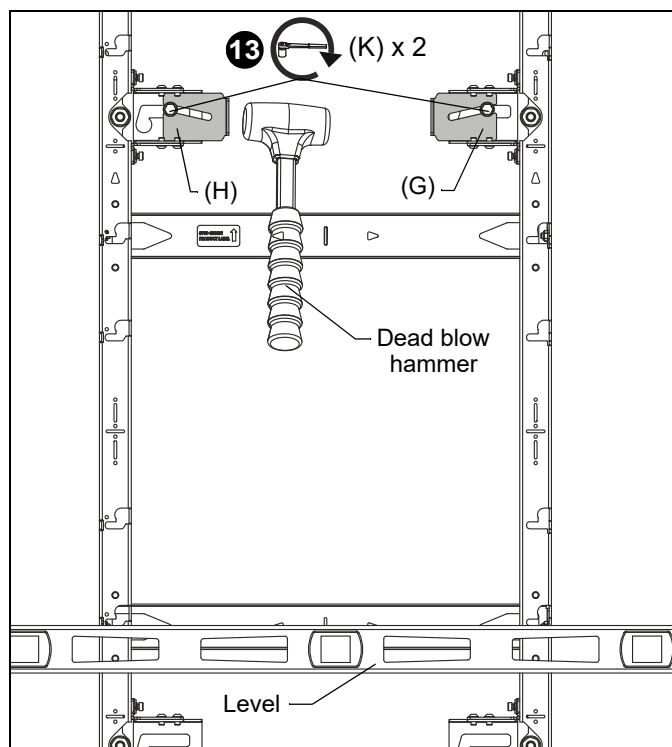

Figure 10
- Check the level of the mount at the bottom of the teardrop slots. (See Figure 10)
- If the mount is not level, slide or use a dead blow hammer to lightly tap the spacer into place. This will lift the mount up as the lag screw rides in the washer's angled slot. (See Figure 10)
- When the mount is leveled, tighten the lag screws (K). (See Figure 10)